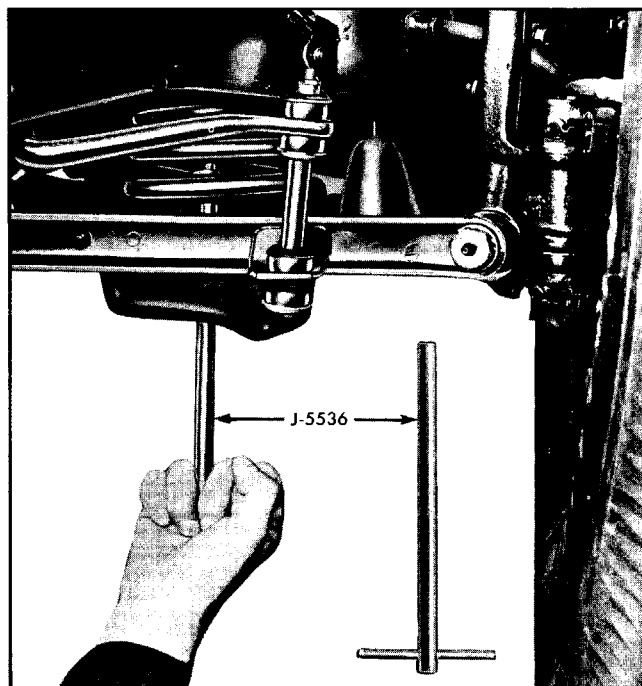

Fig. 3-12 Compressing Shock Absorber With Tool J-5536
3. Remove grommet retainer and grommet. Compress shock absorber as far as possible by pushing the lower section up. Tool J-5536 (Fig. 3-12) can be used for compressing shock absorber.